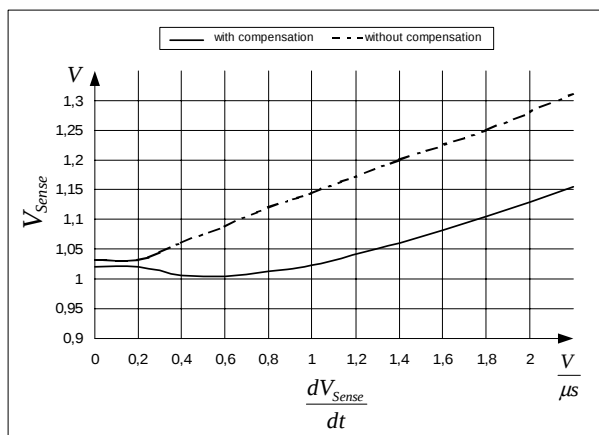

Figure 16 Overcurrent Shutdown
A propagation delay compensation is integrated to bound the overshoot dependent on dI/dt of the rising primary current. That means the propagation delay time between exceeding the internal current sense threshold V_{csth} and the switch off of CoolMOS™ is compensated over temperature within a range of at least (see Figure 16):
E.g. $I_{peak} = 0.5A$ with $R_{Sense} = 2$. Without propagation delay compensation the current sense threshold is set to a static voltage level $V_{csth} = 1V$. A current ramp of $dI/dt = 0.4A/\mu s$, that means $dV_{Sense}/dt = 0.8V/\mu s$, and a propagation delay time of i.e. $t_{Propagation Delay} = 180ns$ leads then to a I_{peak} overshoot of 12%. By means of propagation delay compensation the overshoot is only about 2% (see Figure 16). So current limiting is now capable in a very accurate way.